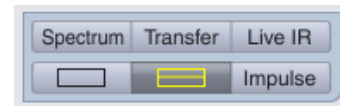

Figure 56: Main display buttons for Real-Time mode
- The two buttons labeled with rectangles divide the main plot area into one or two graph panes: one rectangle, one pane; two rectangles, two panes. Figure 56 shows the double-pane option selected.